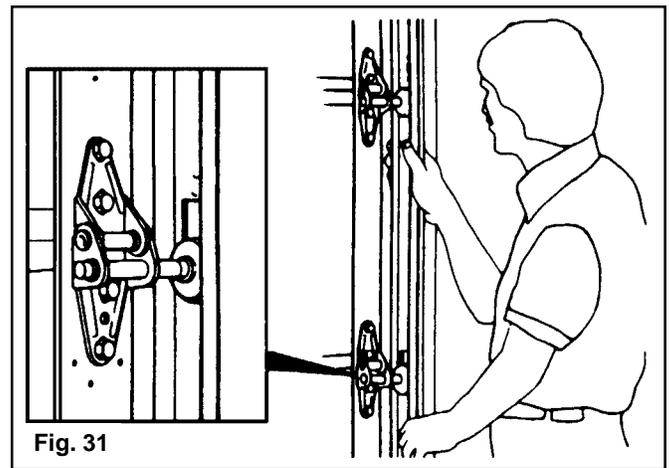

Fig. 31
**Step 3:** Place the track over the rollers on the door. Move the track close to the door so that the rollers are all the way into the hinges. Do not force the track too tightly or the door will bind. There should be  $\frac{3}{8}$ " between the edge of the door and the track. Pilot holes of  $\frac{3}{16}$ " are required at each lag screw location before installing the lag screw. Lift track about  $\frac{1}{2}$ " from the floor and fasten the flag bracket and track brackets to the jamb with  $\frac{5}{16}$ " x  $1\frac{5}{8}$ " lag screws. The flag bracket requires three screws, one each in the top, middle, and bottom holes. Do this for both sides of the door. When the track brackets and flag brackets are securely fastened to the jamb, tighten the track bolts and flange nuts connecting the flag brackets to the tracks. (FIG. 31)